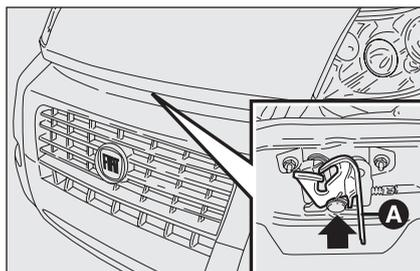

fig. 121
- pull lever **A-fig. 121** as shown in the figure;